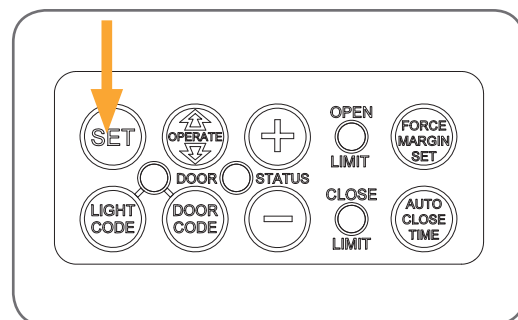

fig 51
- Press and hold the SET Button (Fig 51).